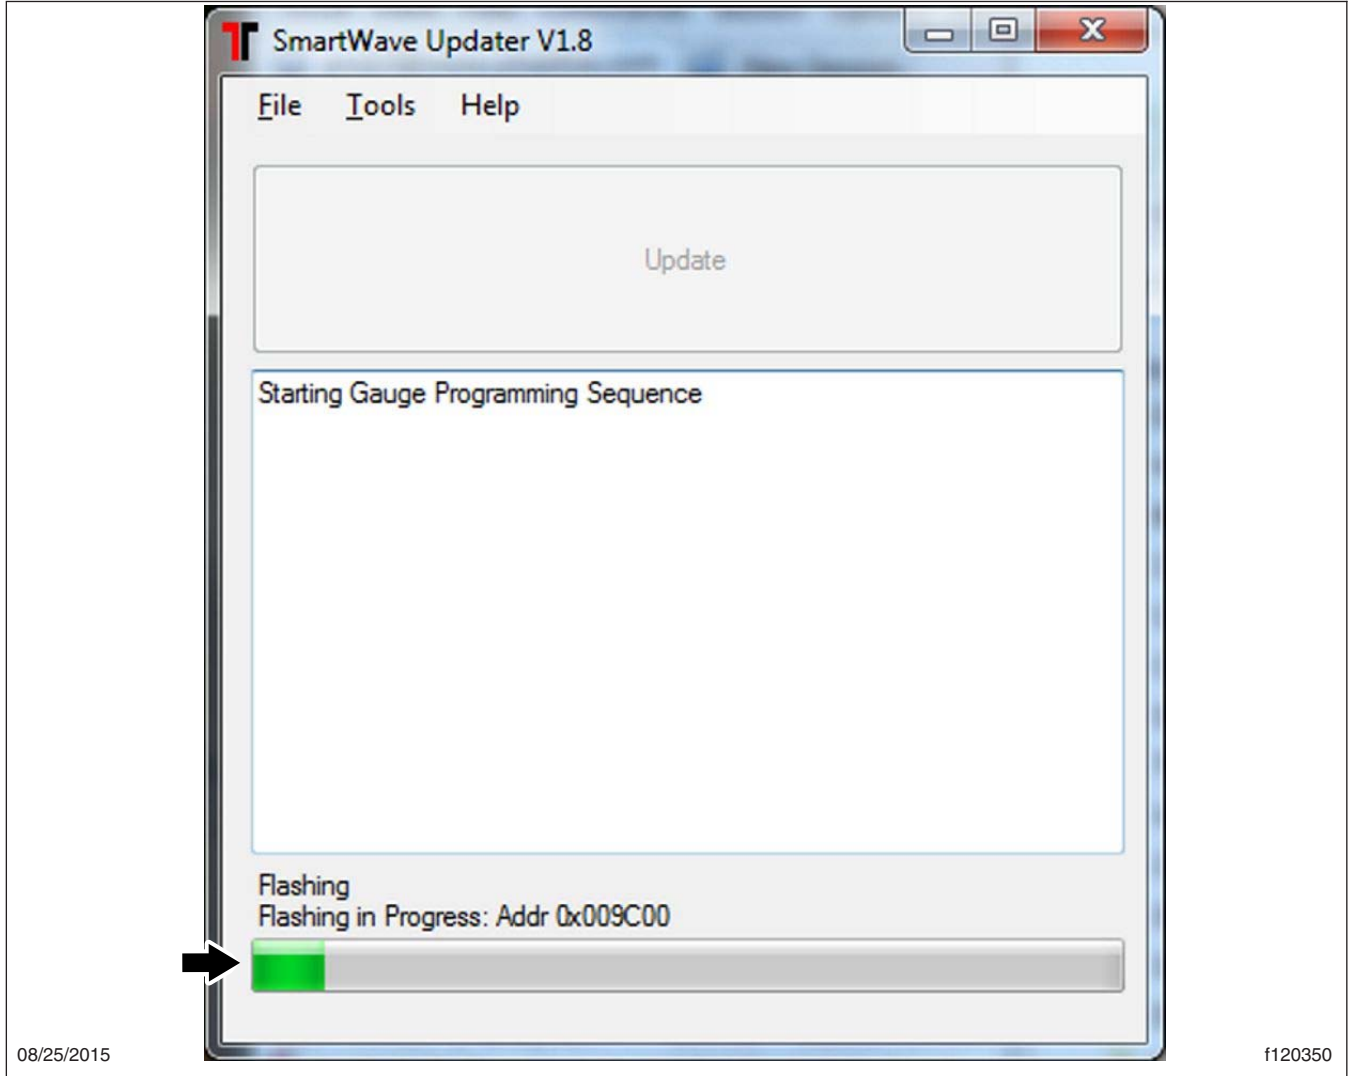

Fig. 6, SmartWave Updater Progress Window
11. Choose the "Select" button. The program will update the display firmware. A window will appear with a progress bar as shown in Fig. 6.